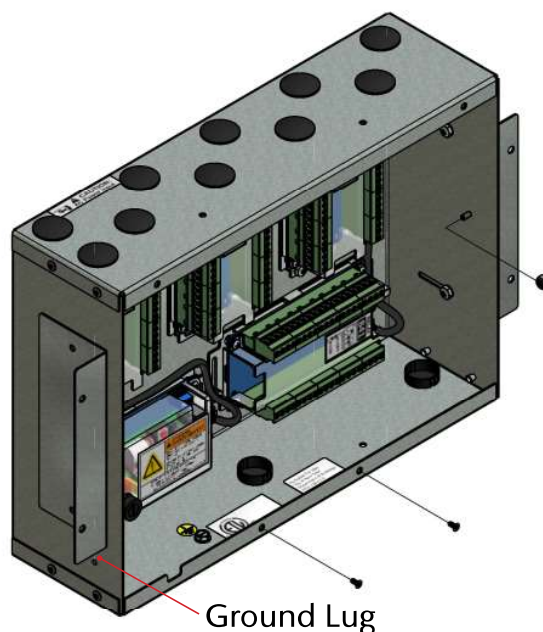

Figure 28: Front Panel Screws
2. Remove front panel mounting screws from alarm panel rough-in box assembly (Figures 28).
3. Remove lanyard mounting nut from alarm panel back box assembly (Figure 28).